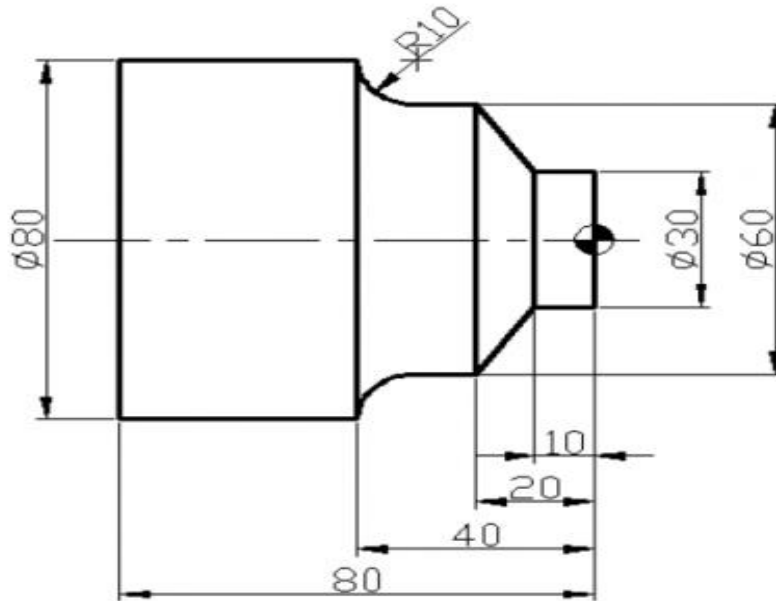

Figure 1
- b) Write a manual part programming for the part shown in figure 1(all dimensions are in mm).